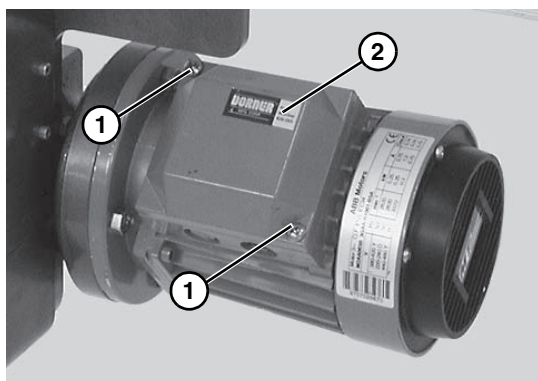

Figure 21
- a. Loosen terminal box screws (**Figure 21, item 1**) and remove cover (**Figure 21, item 2**).